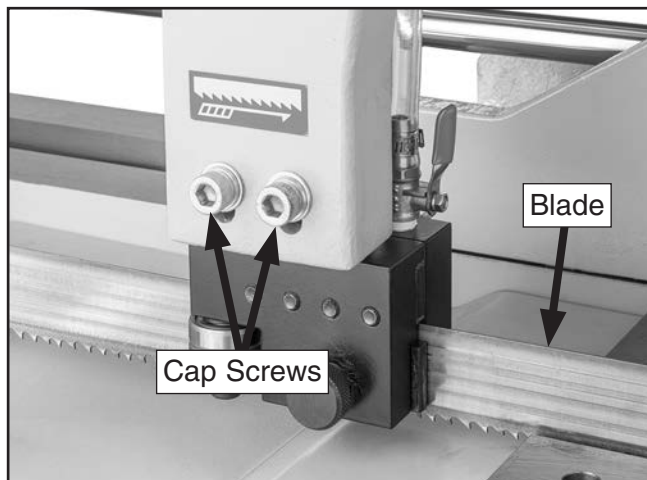

Figure 109. Blade guide assembly cap screws location.
- If blade *is not* square to vise table, loosen two cap screws shown in **Figure 109** one to two turns and repeat on second blade guide assembly. Adjust blade guides as necessary until blade is perpendicular to bed, then tighten screws.